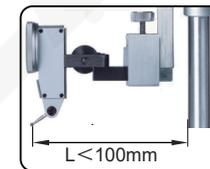

fig.1
---The distance L between contact point and base should be within 100mm(fig.1).